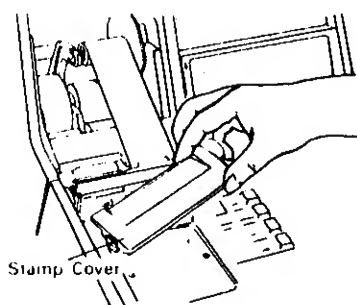

Fig. 10
- 1) Place the control lock in the LOCK position and remove the stamp cover (see Fig. 10).